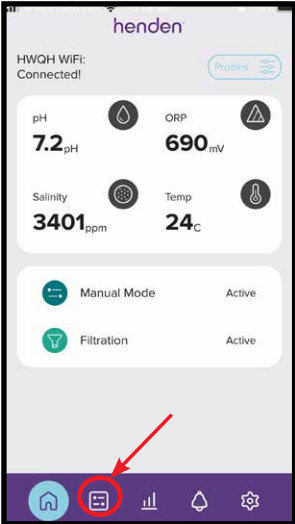

Figure 9.26
- From the dashboard, go to the “modes” menu by using the modes button (refer Figure 9.26).